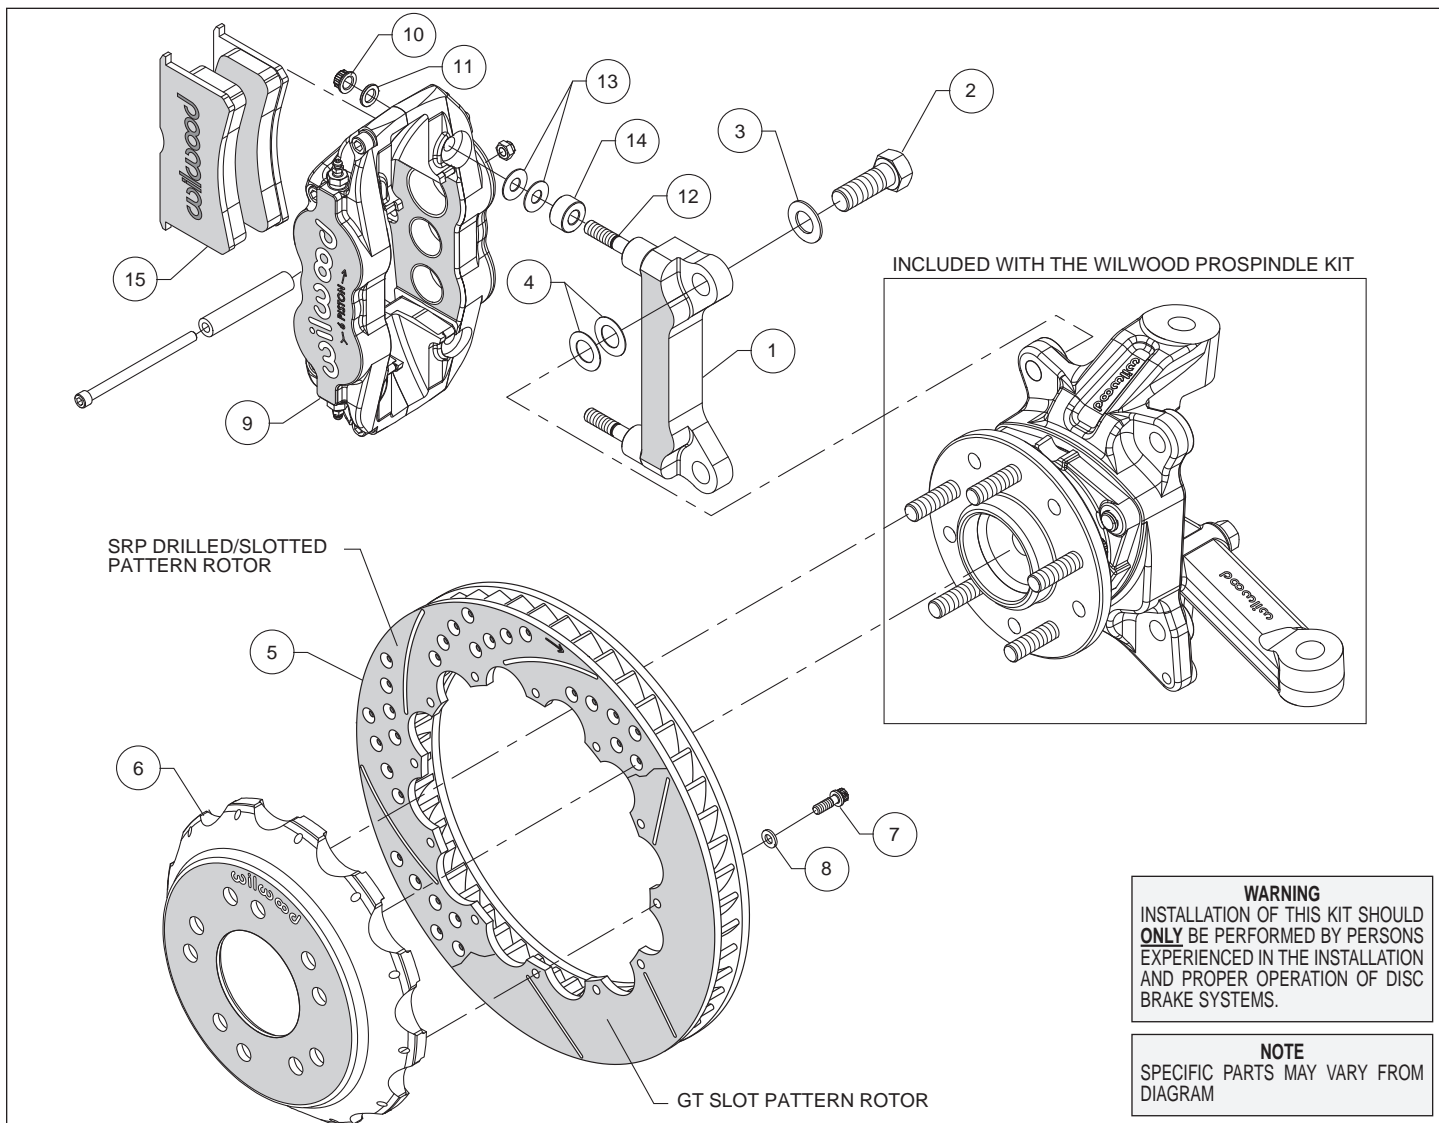
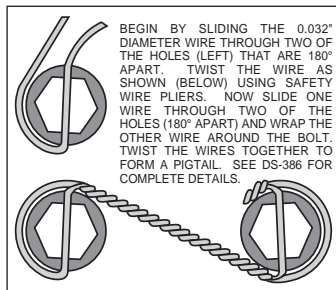

Figure 1. Typical Installation Configuration
Figure 3. Safety Wire Diagram
**Assembly Instructions** (numbers in parenthesis refer to the parts list and Figure 1 on the preceding pages):
- The caliper mount bracket (1) should initially be installed with clean, dry threads on the mounting bolts. Orient the bracket as shown in Figure 1 and Photo 1 and install using mount bolts (2) and washers (3). Initially place two .024" thick shims (4) on each bolt between the bracket and spindle, Figure 1. Temporarily tighten the mounting bolts. **NOTE:** The bracket must fit squarely against the mounting points on the spindle. Inspect for interference from casting irregularities, machining ridges, burrs, etc. Later, after the caliper alignment has been checked, the mount bolts will be secured using red Loctite® 271.
- Orient the rotor (5) and the hat (6) as shown in Figure 1 and Photo 2. Attach rotor to hat using bolts (7) and washers (8). Using an alternating sequence, apply red *Loctite*® 271 to the threads, and torque to 155 **in-lbs**. For an added measure of security, the bolts may be safety wired using standard 0.032 inch diameter stainless steel safety wire as shown in Figure 3. Please refer to Wilwood's data sheet DS-386 (available at [www.wilwood.com/Pdf/DataSheets/ds386.pdf](http://www.wilwood.com/Pdf/DataSheets/ds386.pdf)) for complete safety wire installation instructions.
- **NOTE:** *This kit contains distinct right and left hand calipers that must be mounted in a specific direction, as described below.* Lubricate the caliper mounting studs (12) with lightweight oil. Initially place two .035" thick shims (13) and one spacer (14) on each stud between the caliper and the bracket, as shown in Figure 1 and Photo 5. Mount the caliper (9) onto the bracket (1) using lock nuts (10) and washers (11), Figure 1. Ensure that the caliper is mounted so the largest pistons are at the rotor exit end of the caliper, in relation to the direction of rotor rotation. Temporarily tighten the lock nuts and view the rotor through the top opening of the caliper. The rotor should be centered in the caliper, Photo 6. If not, adjust by adding or subtracting shims (4) between the bracket and the spindle. Always use the same amount of shims on each of the two mounting bolts. Once the caliper alignment is correct, remove the bracket mounting bolts one at a time, apply red *Loctite*® 271 to the threads, and torque to 140 ft-lb.